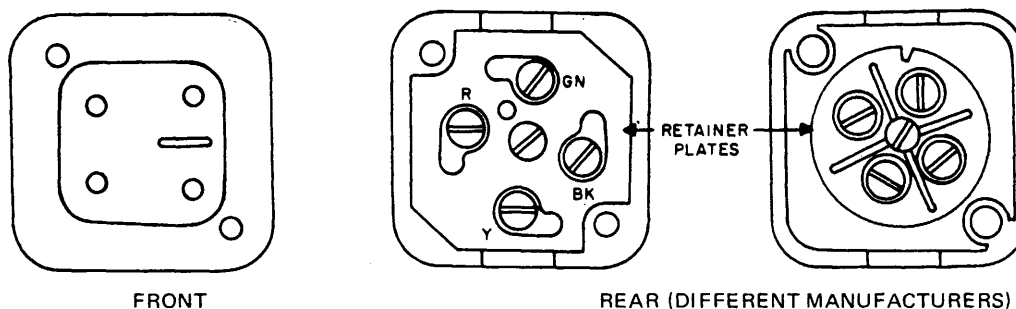

Figure 1. Surface-Mounted Indoor Installation (404B Jack).
2.01 The various types of jacks can best be described by putting them in two categories, surface-mounted and flush-mounted. The surface-mounted jacks are the 404B indoor jack and the 16151 outdoor jack (Figures 1 and 2). The flush-mounted jacks are the 16152 outdoor jack and those installations employing the 548A jack and various outlet plates and mounting brackets (Figures 3, 4 and 5).
2.02 The 404B indoor jack shown in Figure 1 is principally intended for use where wiring is run exposed along the baseboard or floor. Two wood screws are supplied with the jack for mounting to a wood surface. It accepts a Type → 28 plug.
3.03 Install station wire to the 404B indoor jack in the following manner (Figure 1):
- (a) Connect station wire to terminals in accordance with the color code markings shown in Figure 1. Orient the 404B jack so that the cord entry hole is located at the top; with the cord exit at the bottom of the plug.